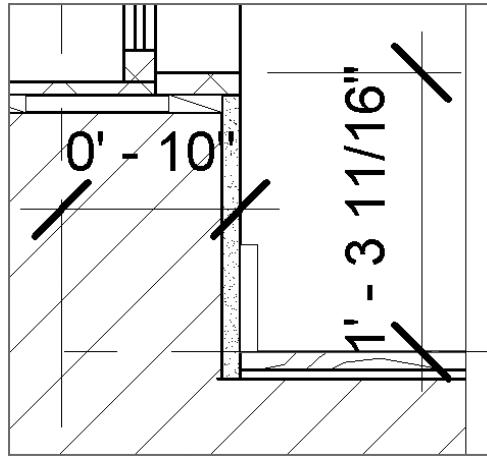

FIGURE 11.24 Dimensioning the window sill
8. Let's add one final dimension string. Add a dimension locating the window sill relative to the floor, as shown in Figure 11.24.